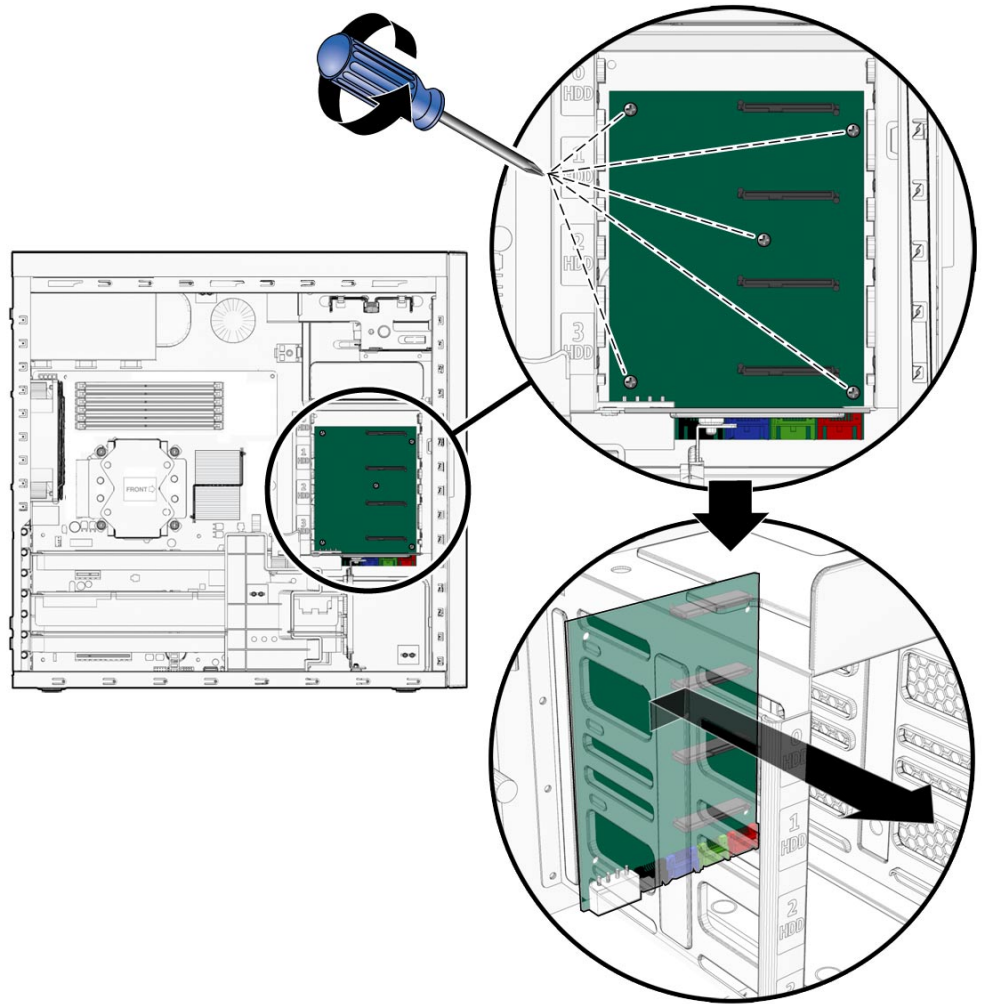

FIGURE 3-10 Removing the Storage Backplane
- 10 Using a long (more than 6 inches) No. 2 Phillips screwdriver, remove the five screws securing the storage backplane to the threaded standoffs on the chassis (see Figure 3-10). Retain the screws.